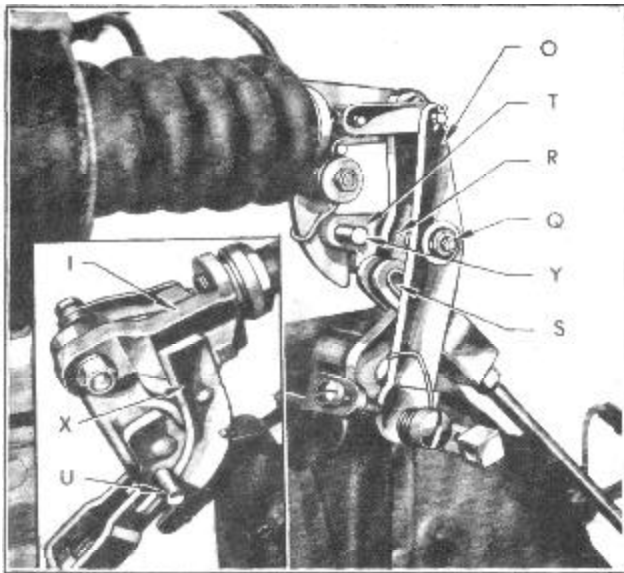

FIGURE 10
When first starting the car, the clutch pedal is depressed manually (by the driver's foot) and the action that takes place is--the end of the bell crank yoke (S) strikes the pin (Y) and swings the lever (T) both forward and upward, see Figure 10.
piston rod end (I) will engage the pin (U) and the compensator lever will be rotated back to a position for normal driving. See Figure 10.
The compensator lever must be in an upward position as shown in Figure 10 before making any automatic clutch adjustment.